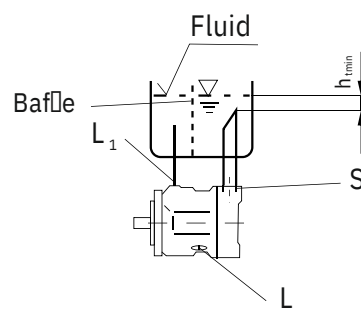

Fig.5
b) Mounting below the reservoir Pipe ports "L" and "S" according to Fig.5, 1 close port "L".